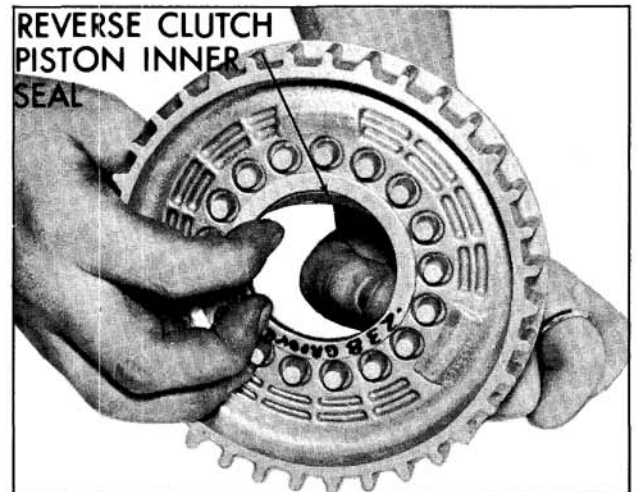

Fig. 6-479 Reverse Piston Inner Seal
3. Examine reverse clutch piston inner seal. If nicked, torn or worn, remove seal. (Fig. 6-479)
4. Lubricate with transmission oil and install reverse clutch piston inner seal. (Fig. 6-479)